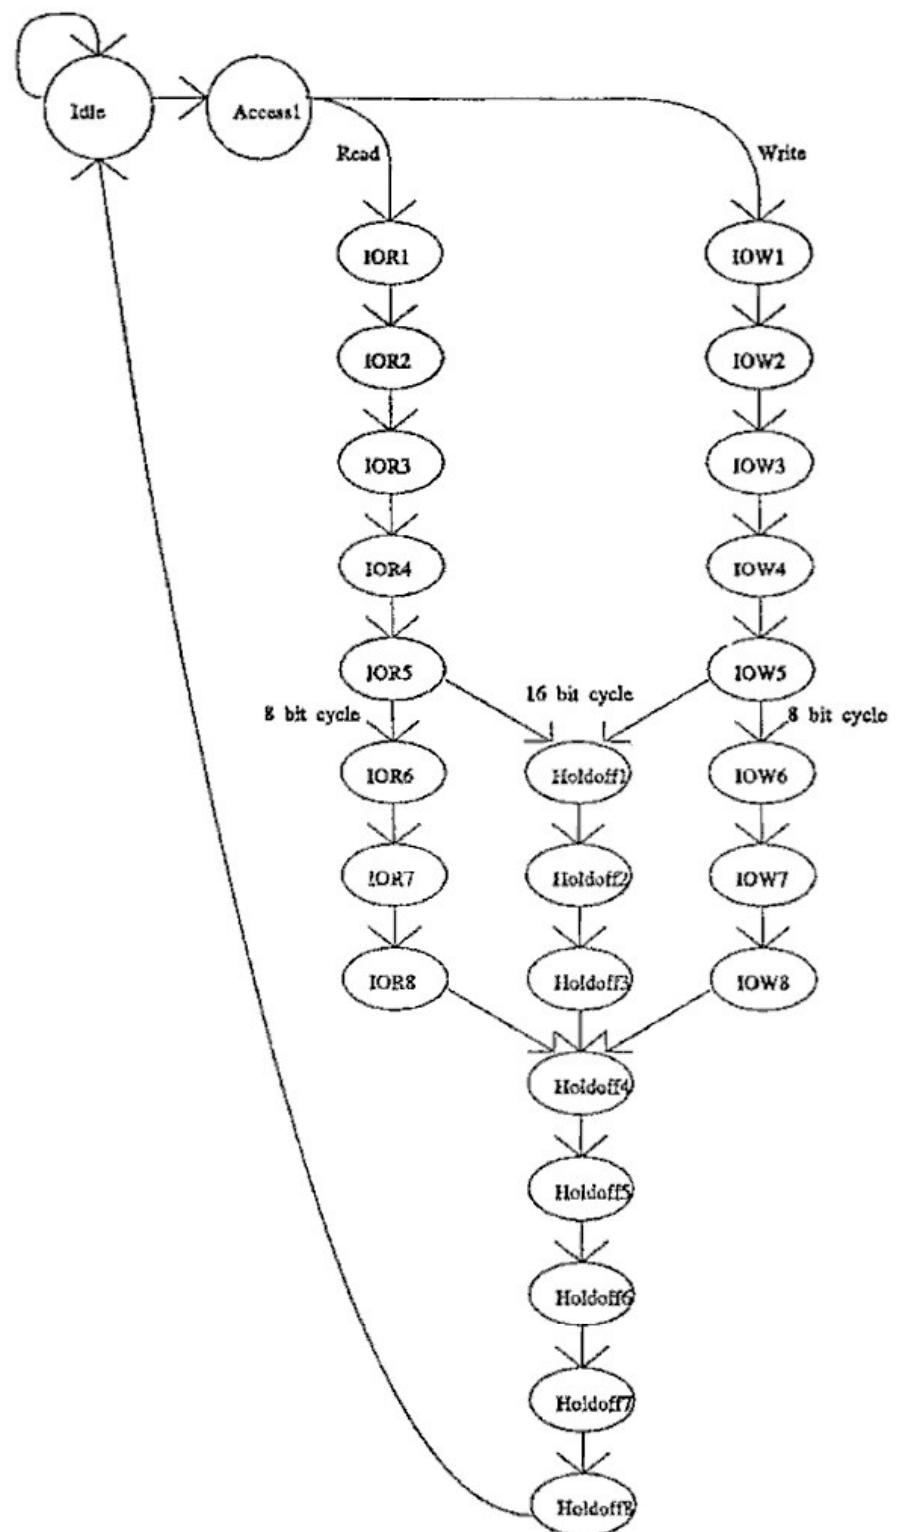

FIGURE 2
The IDE (AT) hard drive requires two mutually exclusive chip selects. Refer to the following tables for address range in which each is active. The state machine shown (Figure 2) is used for IDE accesses. Note that consecutive accesses cannot be performed nearly as fast as a single access. This would suggest that the optimum algorithm for access of IDE data would consist of single accesses of IDE data interleaved with single accesses of the target/source data buffer.